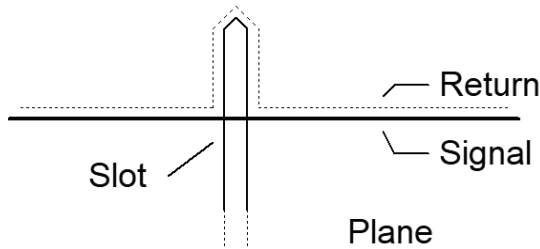

Figure 4.3
4.2.4 Slots in Planes: There are many reasons to avoid slots in planes. Figure 4.3 illustrates one of them. If a signal trace crosses a slot, where does the return signal go? It must find its way around the slot and a loop is inevitable. There is simply no good purpose for a slot in a plane in high-speed designs, and lots of really good reasons not to allow them.